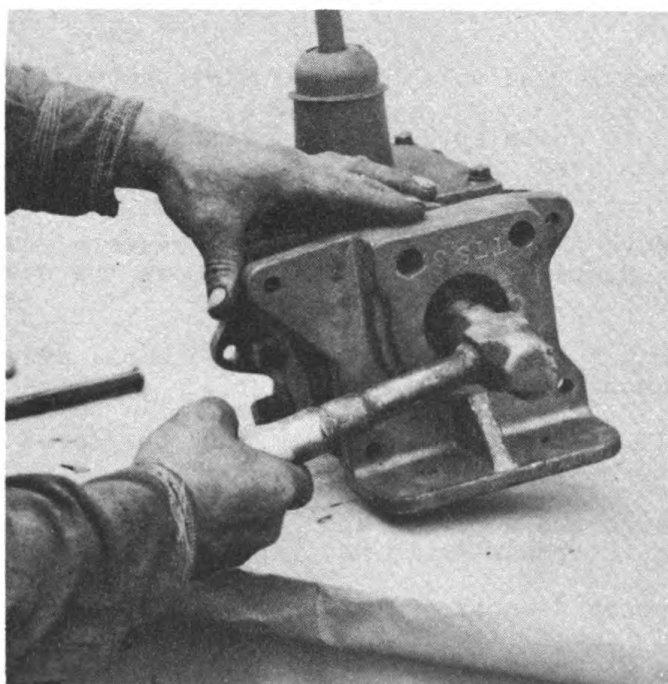

Fig. 16
9. Remove transmission support bracket from transmission, taking out four cap screws and tapping main shaft lightly to draw bracket away from transmission housing, being careful not to damage grease seal located in support bracket. (See Fig. 16 Page 27.)